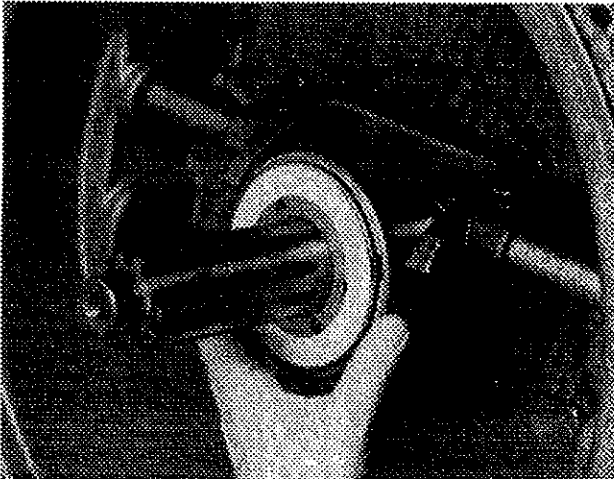

Fig. 18
1. Position the torque limiting clutch brake on the main drive gear of the transmission (see fig. 18), then shift transmission into gear so that the input shaft can be rotated during assembly to align with clutch-driven disc hub splines.